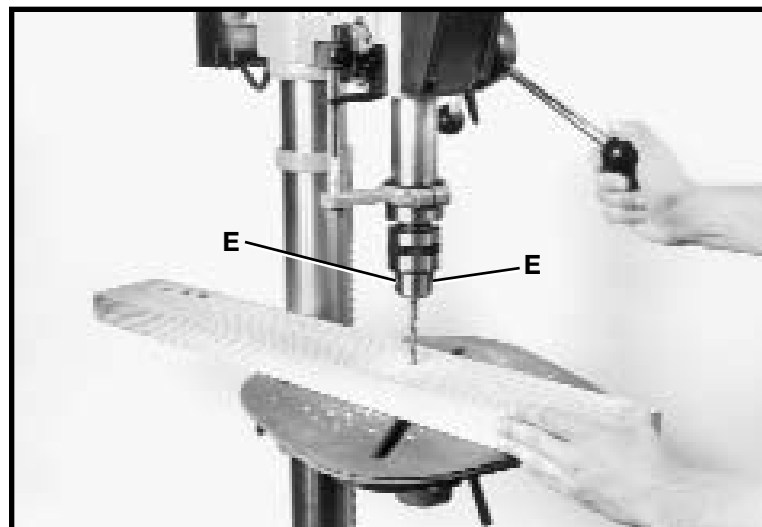

Fig. 30
The following directions will give the inexperienced operator a start on common drill press operations. Use scrap material for practice to get a feel of the machine before attempting regular work. **IMPORTANT:** After installing a drill bit into the chuck, always tighten the jaws of the chuck using the key supplied in all three locations of the chuck, two of which are shown at (E) Fig. 30.
IMPORTANT: When the workpiece is long enough, it should always be positioned on the table with one end against the column, as shown in Fig. 30. This prevents the workpiece from rotating with the drill bit or cutting tool, causing damage to the workpiece or personal injury to the operator. If it is not possible to support the workpiece against the column, the workpiece should always be fastened to the table using clamps or a vise.